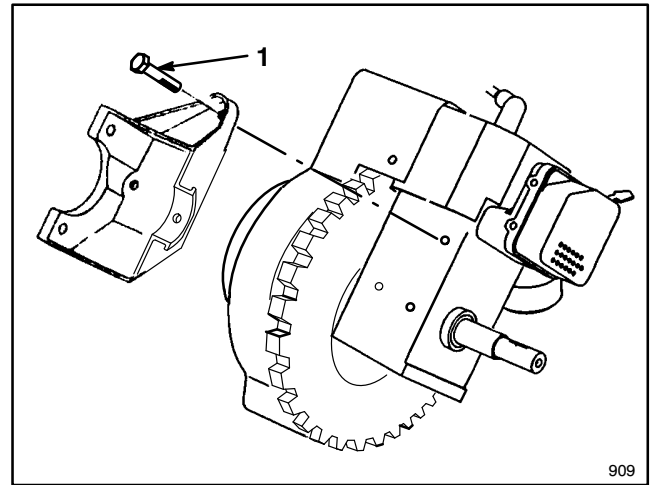

Figure 7
- B** If bracket was secured to engine with (3) three screws (Fig. 7), remove screws and bracket.